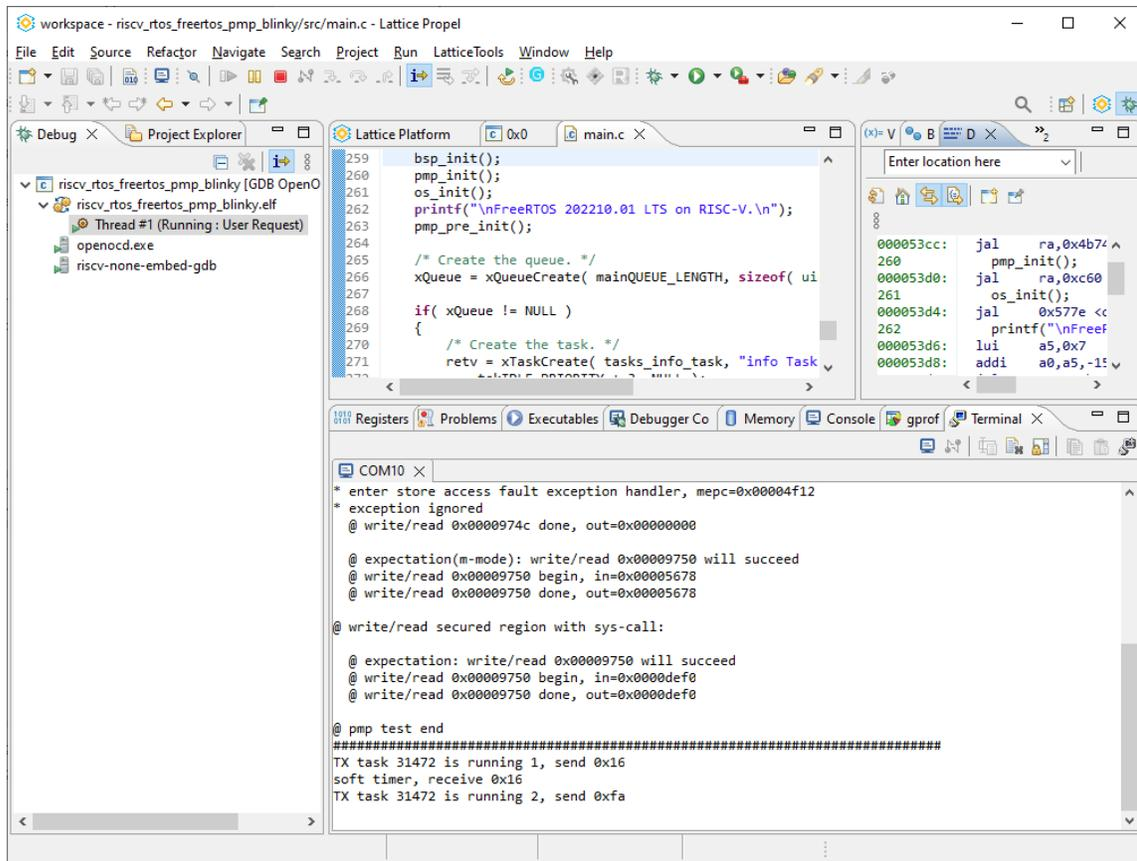

Figure 5.6. Running/Debugging Windows
9. Click the **Resume** icon  on the toolbar. The serial terminal outputs running logs (Figure 5.6).